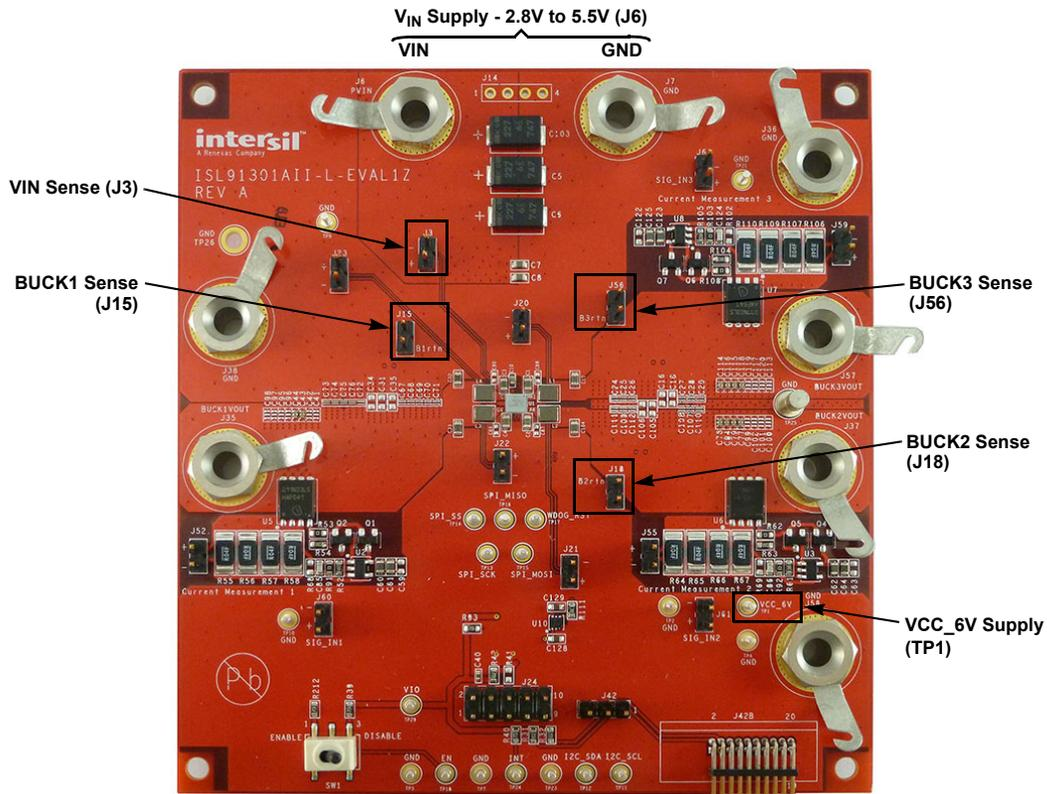

Figure 12. ISL91301AII-L/H-EV1Z Efficiency Measurement Connections
- (1) Connect a power supply at J6 (VIN supply), with the voltage setting between 2.5 and 5.5V for the ISL91301AII-L-EV1Z and between 2.8 and 5.5V for the ISL91301AII-H-EV1Z. The current limit should be set high enough to support the maximum load current with additional headroom. If the power supply supports remote sense lines, use a Kelvin connection on J3. Otherwise, connect a multimeter at J3.
- (2) Apply 6V to TP1 (VCC_6V) to initiate the startup sequence and all three outputs will turn on. To get an accurate single channel measurement, disable the other two outputs using the GUI.
- (3) Turn on the electronic load at VOUTx. The connection should be made at J35 (VOUT1), J37 (VOUT2), or J57 (VOUT3). Make sure the load current does not exceed 3A per phase for the ISL91301AII-L-EV1Z and 4A per phase for the for the ISL91301AII-H-EV1Z. Use the correct wire size when attaching the electronic load.
- (4) Measure the output voltage with a multimeter. The voltage should regulate within datasheet spec limits.
- (5) To determine efficiency, measure input and output voltages at the Kelvin sense test points (S+ and S-), which are located at J3 (VIN SENSE) and J15 (BUCK1 SENSE), J18 (BUCK2 SENSE), or J56 (BUCK3 SENSE) headers. Measure the input and output currents from the VIN power supply and the electronic load. Calculate efficiency based on these measurements. For detailed setup information, refer to Figure 12 on page 14.